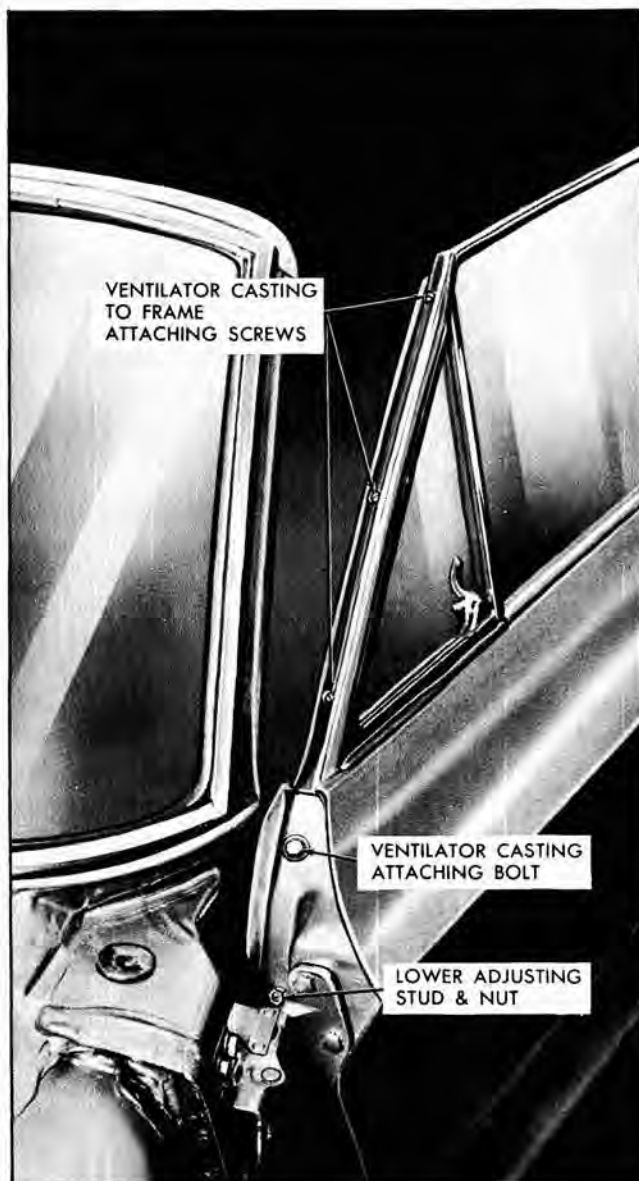

Fig. 13-19 Door Ventilator Casting
2. Remove three (3) ventilator casting to ventilator frame attaching screws and remove casting from door (Fig. 13-19).